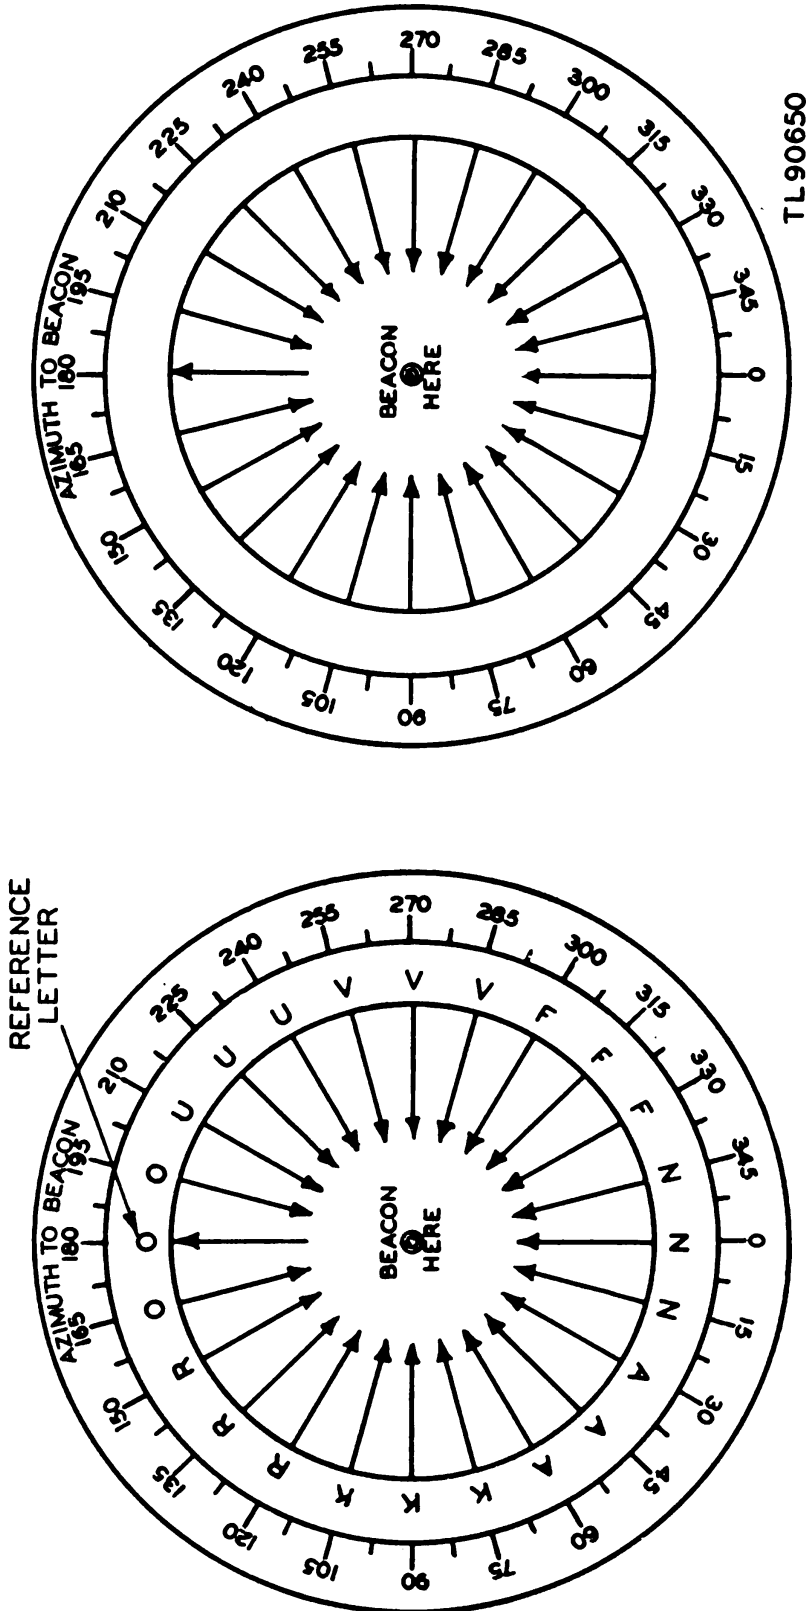

Figure 34. Homing disc.
b. A circular piece of paper showing an azimuth scale with degrees marked in clockwise direction 0-360, in  $15^\circ$  segments, and a compass are the only additional equipment necessary for homing. Figure 34 shows the form required.
(1) These homing discs have been designed to eliminate computation and to give the operator receiving the beacon signal a direct azimuth on which to travel home. For this reason the reference letter which is oriented to North on the beacon, is placed on 180 degrees on the homing disc.
(2) If only the reference letter is known and the characters are copied on the homing disc from signals received in the field, they should be copied in a clockwise direction starting with the reference letter on 180 degrees.
(3) It is best when circumstances permit to use a homing disc with the characters to be received already written in. In case these characters are copied directly from the code disc to be used, and not from radio signals, it is necessary because of the clockwise rotation of the code disc against the fixed point of the keyer contact, to proceed in the following manner: Write in the reference letter (oriented to North on the beacon) on 180 degrees on the homing disc. Following the characters around the code disc in a counterclockwise manner, write them on the homing disc in a clockwise direction.
(a) Thus, using a code disc with characters as shown in figure 34, aligning the null of the antenna array to magnetic north and setting the second letter O
(2) The beacon antenna array rotates in a clockwise direction at approximately  $2\frac{1}{2}$  rpm. Eight characters, each repeated 3 times, makes a total of 24 characters transmitted each time the code disc makes a complete rotation. These 24 characters are each centered at intervals of  $15^\circ$  and, varying with the width of the character, provide a calibration for almost the entire  $360^\circ$ . The speed of the transmitted signals is approximately 12 words per minute. Repetition of the characters enables inexperienced operators to follow the signals on the homing disc and receive a bearing.
i. In operation, the heart-shaped pattern revolves with the antenna array, and the white marked crossarm null revolves the full  $360^\circ$  marking each section of the service area. With code disc having characters as shown in figure 34 aligned, as in subparagraph *b(1)(a)* above, a receiver to the north of the beacon would miss the second letter O. A receiver located east of the beacon would miss the second letter K. A receiver south of the beacon would miss the second letter N and a receiver west of the beacon would miss the second letter V.